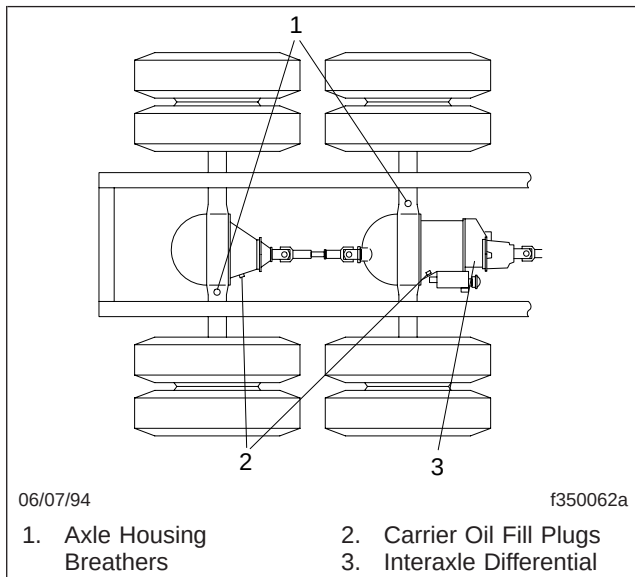

Fig. 4, Fill Plug and Axle Housing Breather Locations
2. Clean the fill plug in the side of the axle carrier, and the area surrounding it. See Fig. 4. Then remove the plug.
Axle housing breathers (**Fig. 4**) must remain clean. Whenever the axle lubricant level is checked, check the axle breather to be sure it is open. Check more often under adverse operating conditions. If the breather is plugged, clean or replace it as needed.